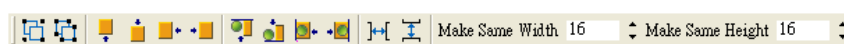

Figure 2-21 Object arrangement toolbar
- **Object arrangement toolbar:** It provides the buttons needed for adjusting the positions of objects and arranging objects, as shown in Figure 2-21. Users can move an object or several objects in the page editing area downward/upward/leftward/rightward by means of . Users can group or ungroup several selected objects by means of . The objects in a group can be copied or rearranged. Besides, users can align several objects to the top/bottom/left/right side by means of . Horizontal and vertical alignment of the objects can be done by clicking . The sizes of multiple objects can be modified at one time by entering values in the fields of Make Same Width and Make Same Height.